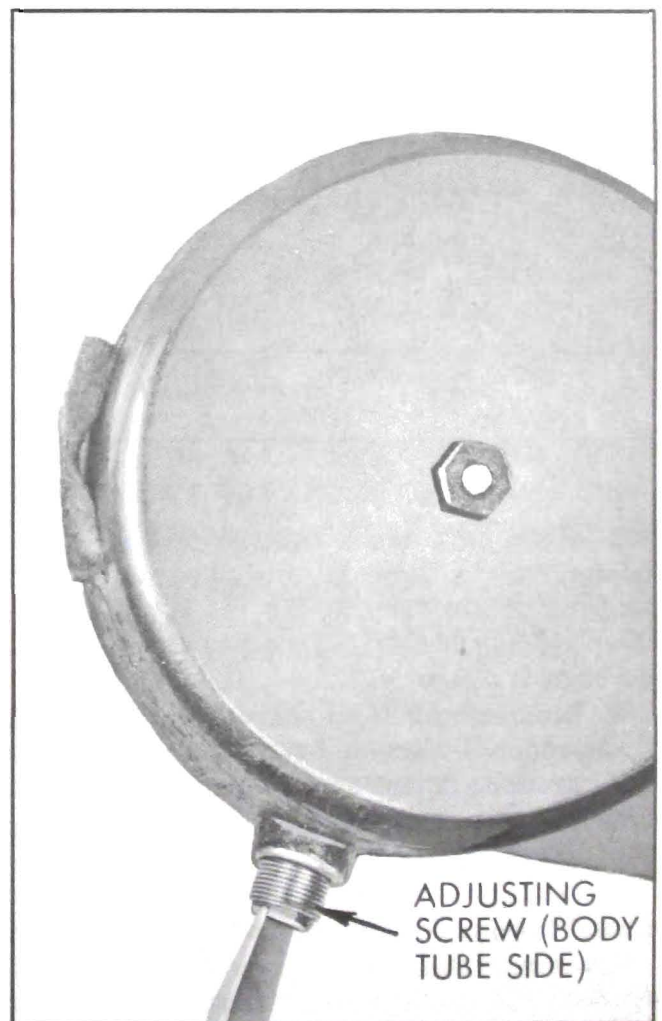

Figure 11-8—Setting Adjusting Screw
7. Tighten adjusting screw until end of screw extends $\frac{3}{16}$ " to $\frac{1}{4}$ " from point on casting where screw enters. See Figure 11-8.